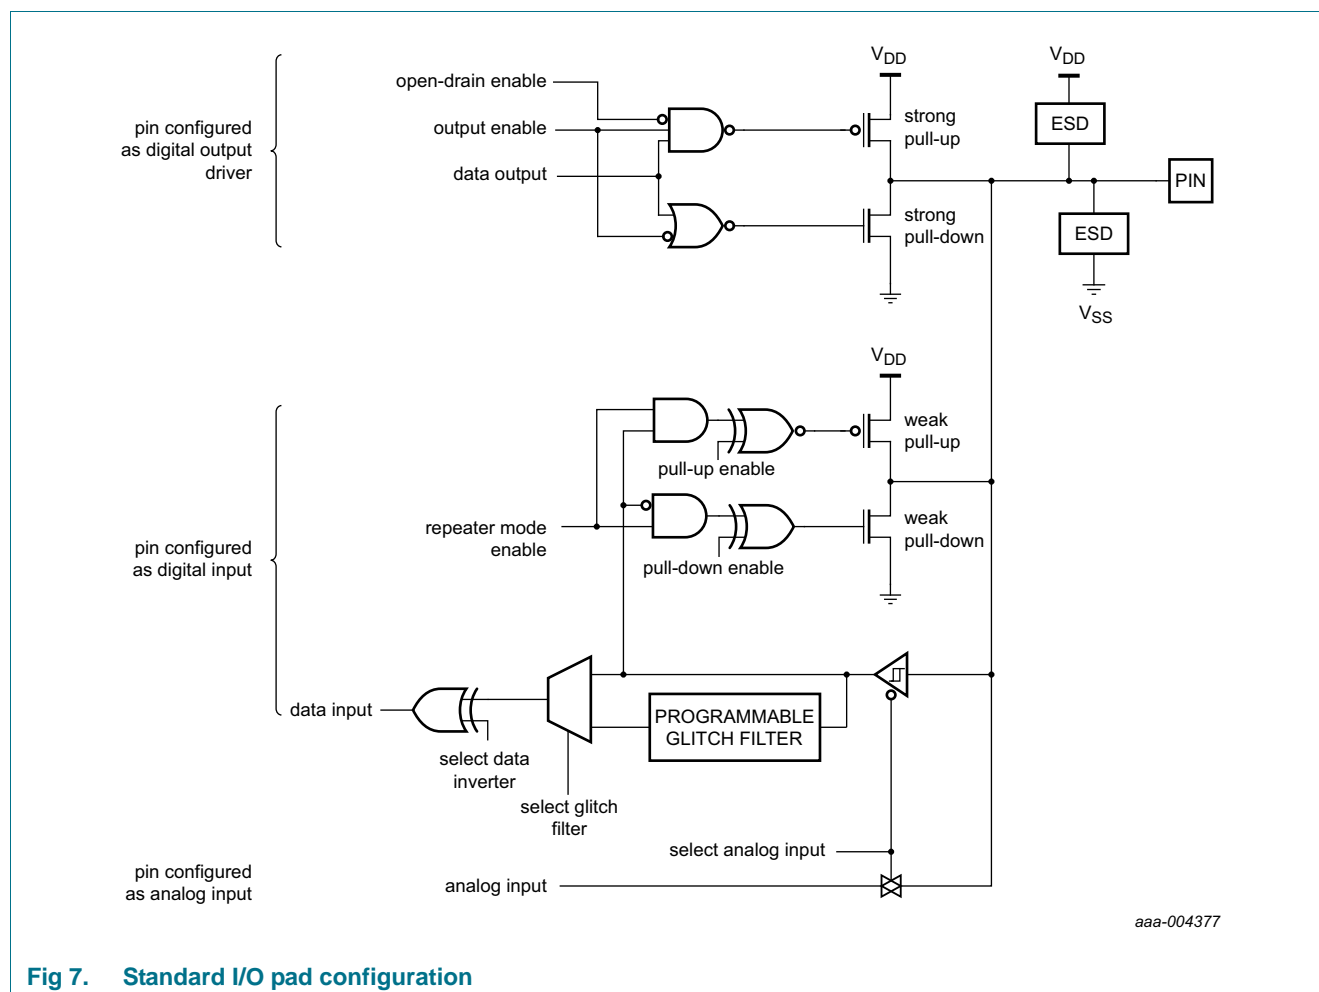

Fig 7. Standard I/O pad configuration
Figure 7 shows the possible pin modes for standard I/O pins with analog input function:
- Pull-up/pull-down configuration, repeater, and open-drain modes can be programmed through the IOCON block for each GPIO pin (see Figure 7).